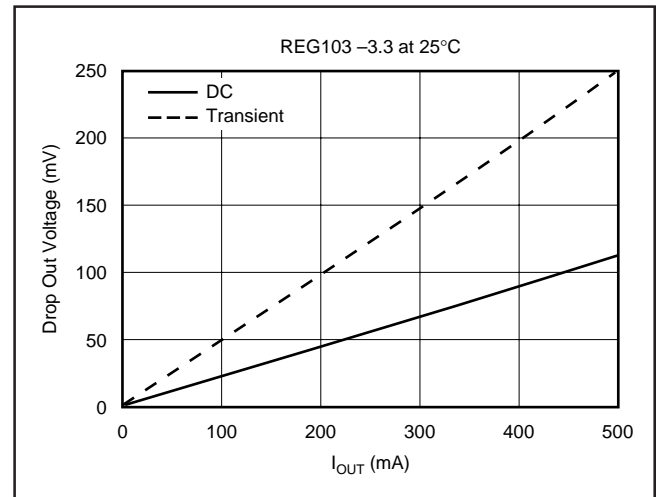

FIGURE 10. Transient and DC Dropout.
regulator's input-to-output resistance is the  $R_{DS(ON)}$  of the DMOS pass element (typically  $230m\Omega$ ). For static (DC) loads, the REG103 will typically maintain regulation down to  $V_{IN}$  to  $V_{OUT}$  voltage drop of 115mV at full rated output current. In Figure 10, the bottom line (DC dropout) shows the minimum  $V_{IN}$  to  $V_{OUT}$  voltage drop required to prevent drop-out under DC load conditions.
For large step changes in load current, the REG103 requires a larger voltage drop across it to avoid degraded transient response. The boundary of this "transient drop-out" region is shown as the top line in Figure 10. Values of  $V_{IN}$  to  $V_{OUT}$  voltage drop above this line insure normal transient response.